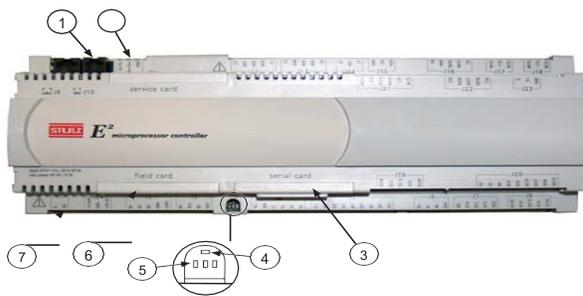

Figure 1. GEN1 Controller
Your STULZ air conditioner has an easy-to-use, touch screen, user interface display panel. The touch screen display panel features a high-resolution LCD graphical display E² controller menu (see Figure 1).
3. Hatch for BMS or network interface port (see Figure 1).